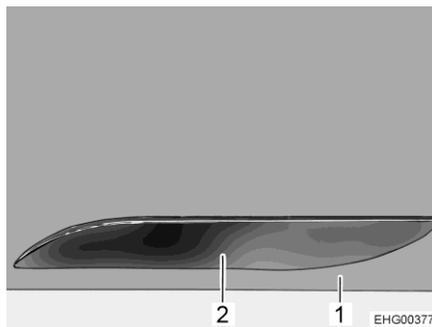

Fig. 61 Pressure lock, closed
- Press the furniture flap (Fig. 61,1) with the handle (Fig. 61,2) against the cabinet body. The furniture flap is unlocked.
- Press the furniture flap on the handle until the lock engages audibly (Fig. 61).